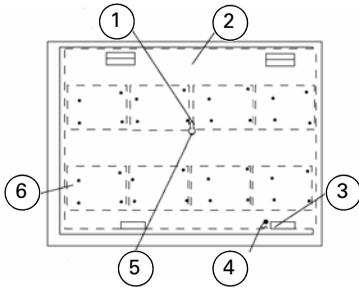

Fig. 4: ANC-8 - Chassis Plate
- 2 Assemble the chassis plate into the housing and secure using fixing screw, as Fig. 4.
- 3 Connect the chassis plate earth lead to the housing, as Fig. 4.